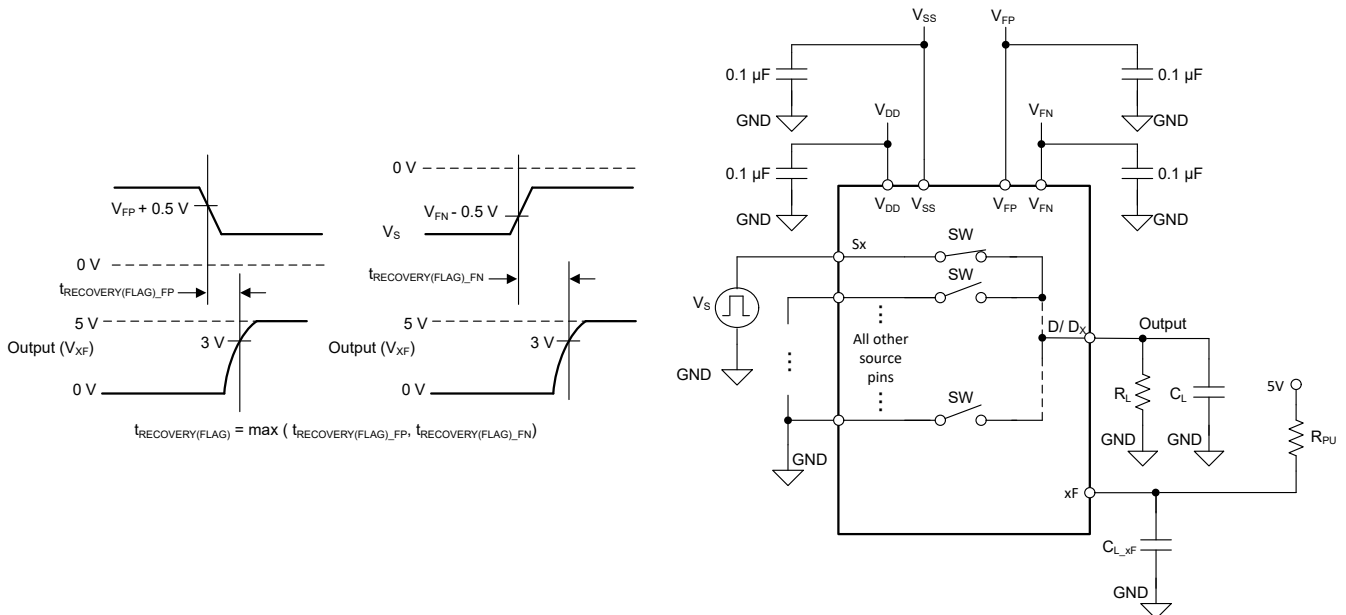

Figure 6-12. Fault Flag Recovery Time Measurement Setup
Fault flag recovery time ($t_{\text{RECOVERY(FLAG)}}$) measures the delay between the source voltage falling from overvoltage condition to below fault supply voltage (V_{FP} or V_{FN}) plus 0.5V and the general fault flag (FF) pin or the specific fault flag (SF) pin to rise above 3V with 5V external pull-up. Figure 6-12 shows the setup used to measure $t_{\text{RECOVERY(FLAG)}}$.